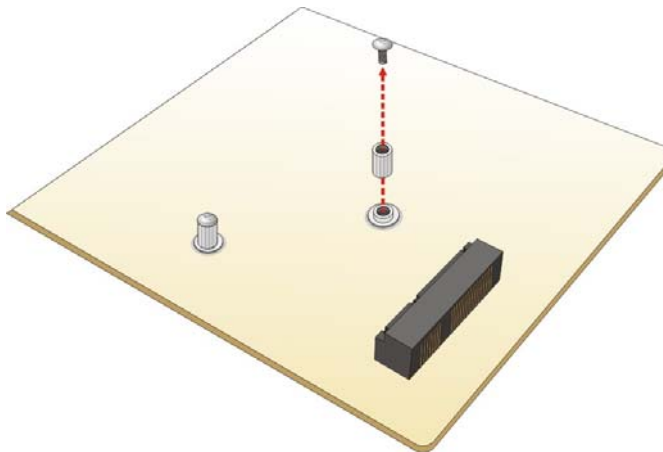

Figure 4-7: Removing the Retention Screw and Standoff for a Half-size PCIe Mini Card
- Step 2: Remove the retention screw and standoff for a half-size PCIe Mini card.** To avoid interference of the board circuit, remove the retention screw and standoff for a half-size PCIe Mini card as shown in **Figure 4-7**.